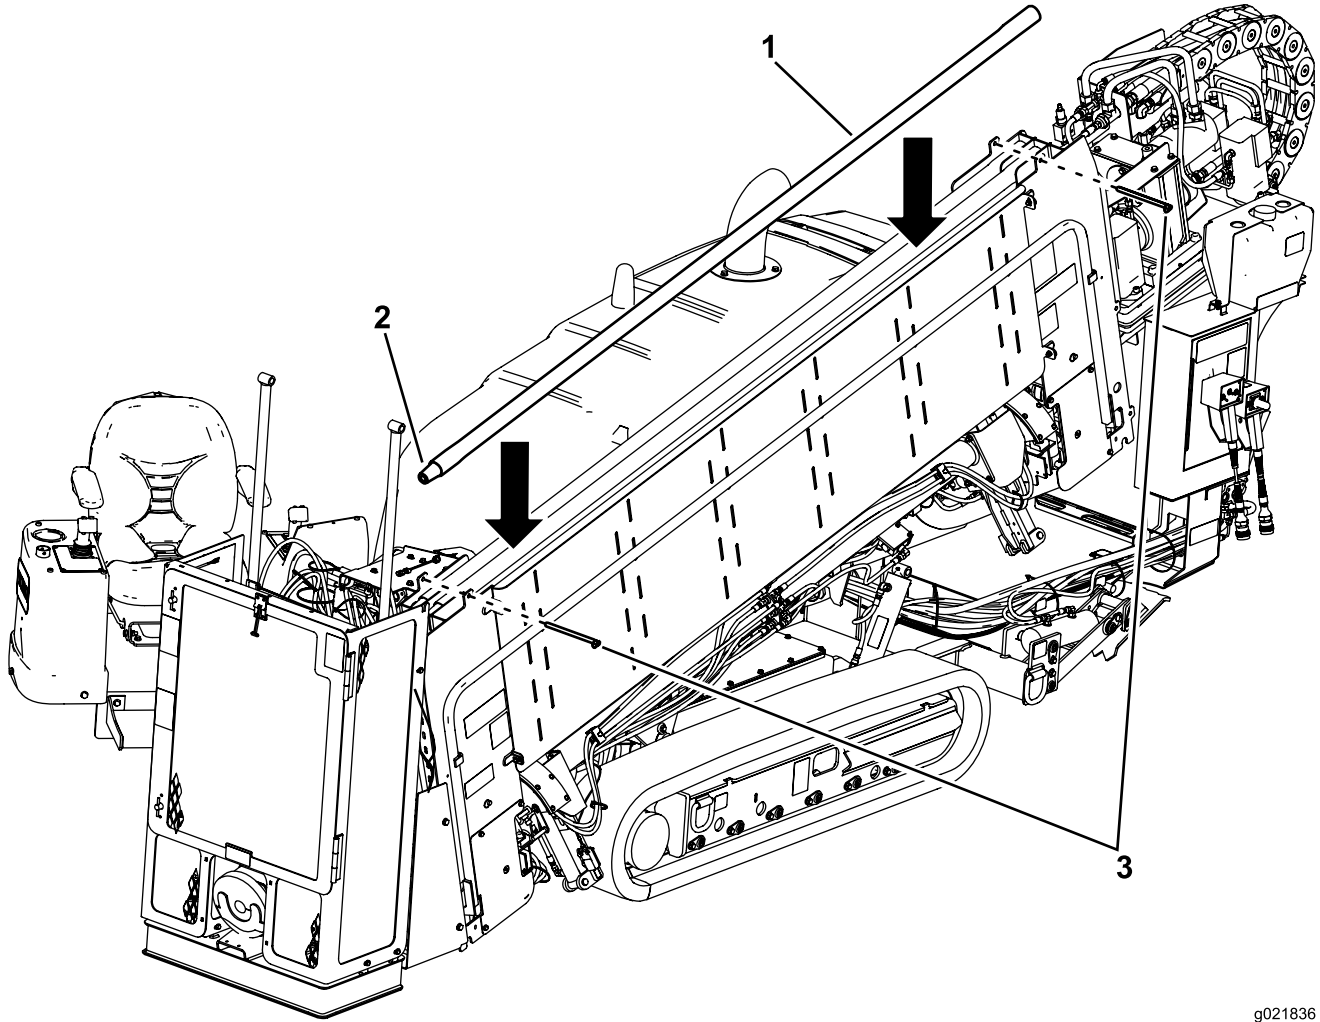

Figure 68
1. Remove the clevis pins from the pipe holder (Figure 68).
2. Insert the pipes from the top with the male threaded pipe ends toward the front of the machine (Figure 68).